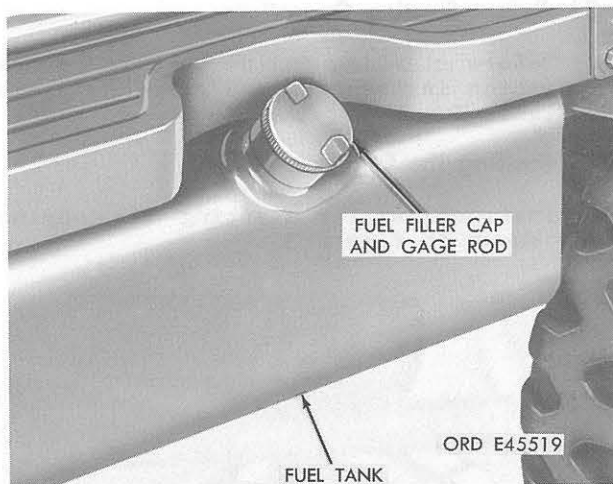

Figure 32. Location of fuel filler cap and gage rod.
s. Fuel Filler Cap and Gage Rod. The fuel filler cap and gage rod (fig. 32) consists of a metal gage rod attached to the underside of the fuel tank filler cap. The gage rod is graduated and marked 1/4, 1/2, and 3/4 FULL.